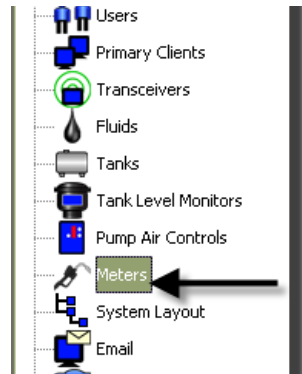

FIG. 131
1. To display the main Meters setup screen, select **Meters** from the list on the Matrix System Panel (FIG. 131).